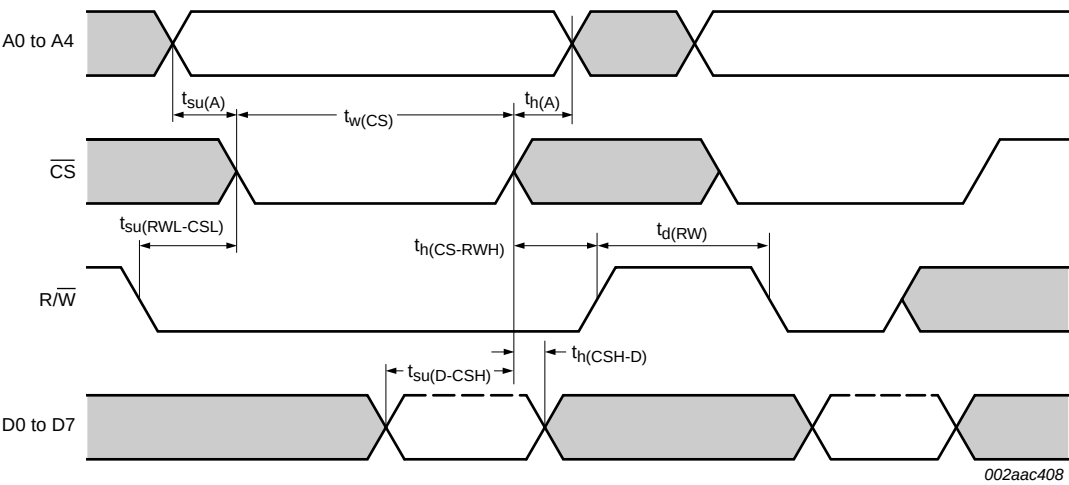
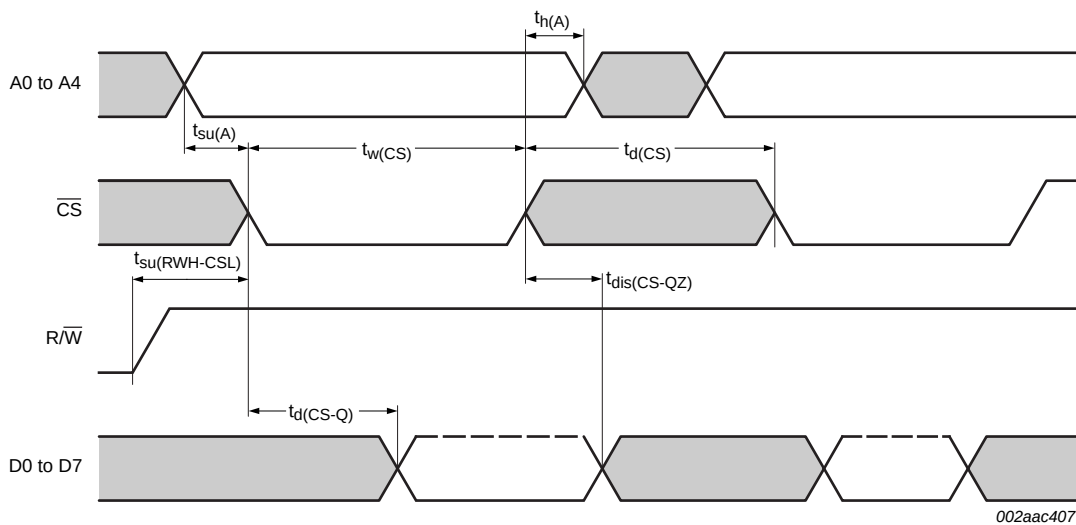

Fig 12. General write timing in 68 mode
Fig 14. General read timing in 68 mode
(1) CS timing during a write cycle. See Figure 12.(2) CS timing during a read cycle. See Figure 14.